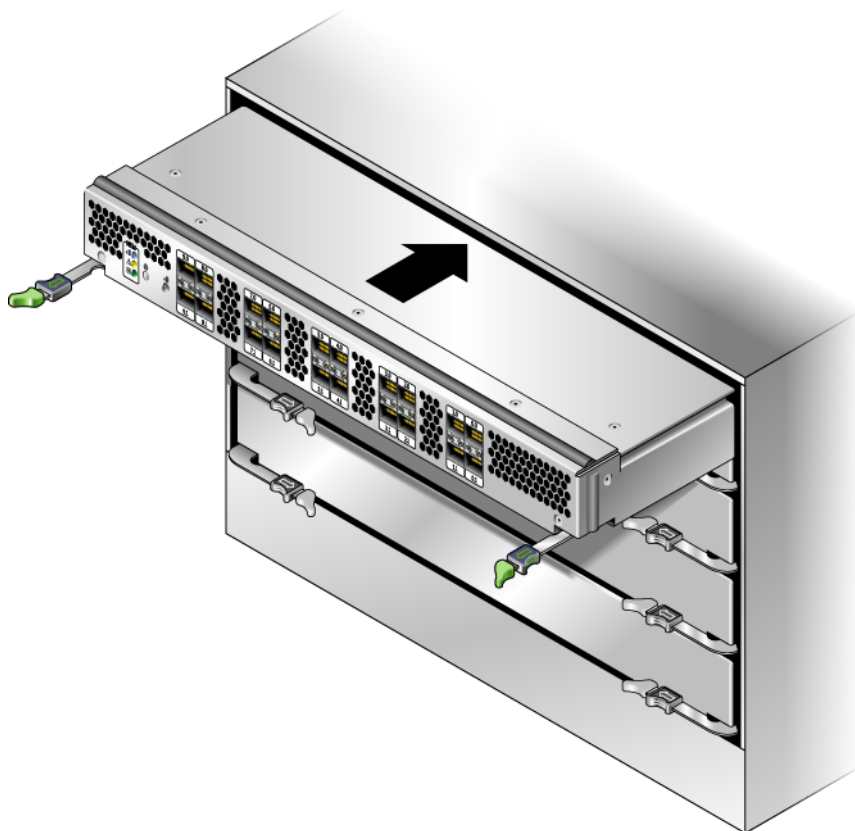

FIGURE 2-2 Inserting the NEM Into the Chassis
6. **Align the NEM with the chassis guidance system and slide the NEM into its slot (see FIGURE 2-2).**